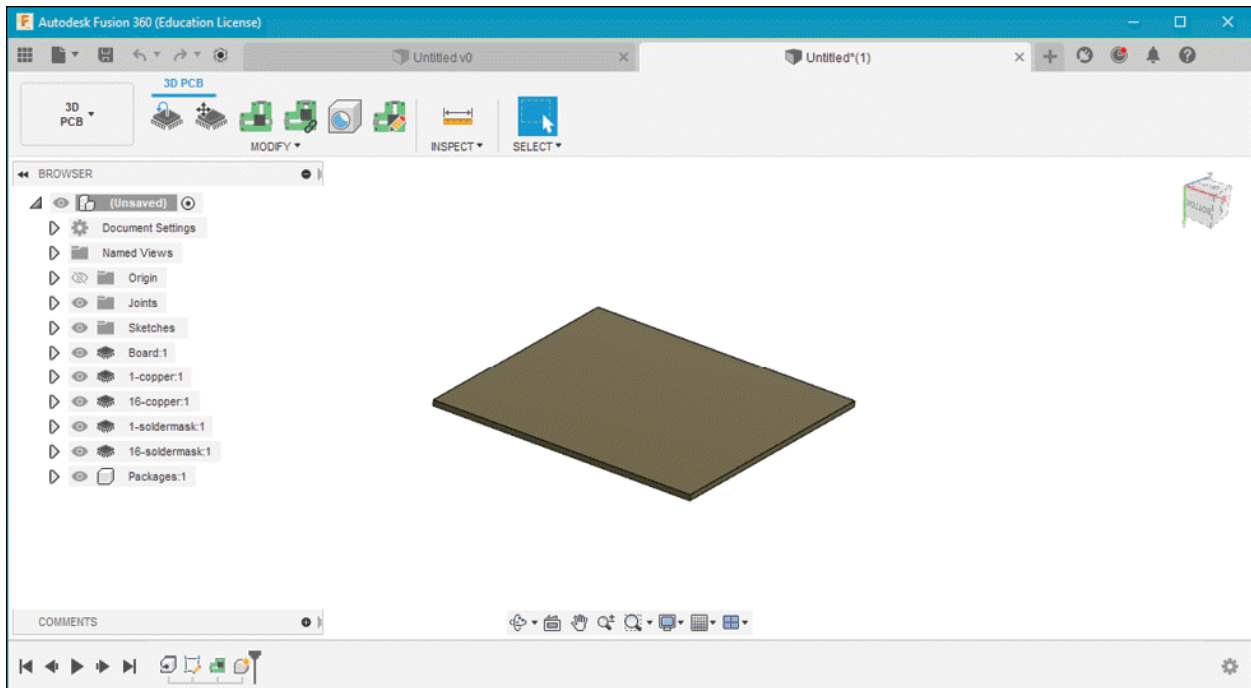

Figure-131. 3D PCB Workspace
- Click on the **OK** button from the dialog box. The **3D PCB Workspace** will be activated and related toolbar will be displayed; refer to Figure-131.